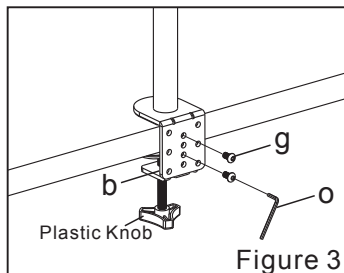

Figure 3
3. Use plastic knob to tighten C-clamp to the table, see Figure 3.